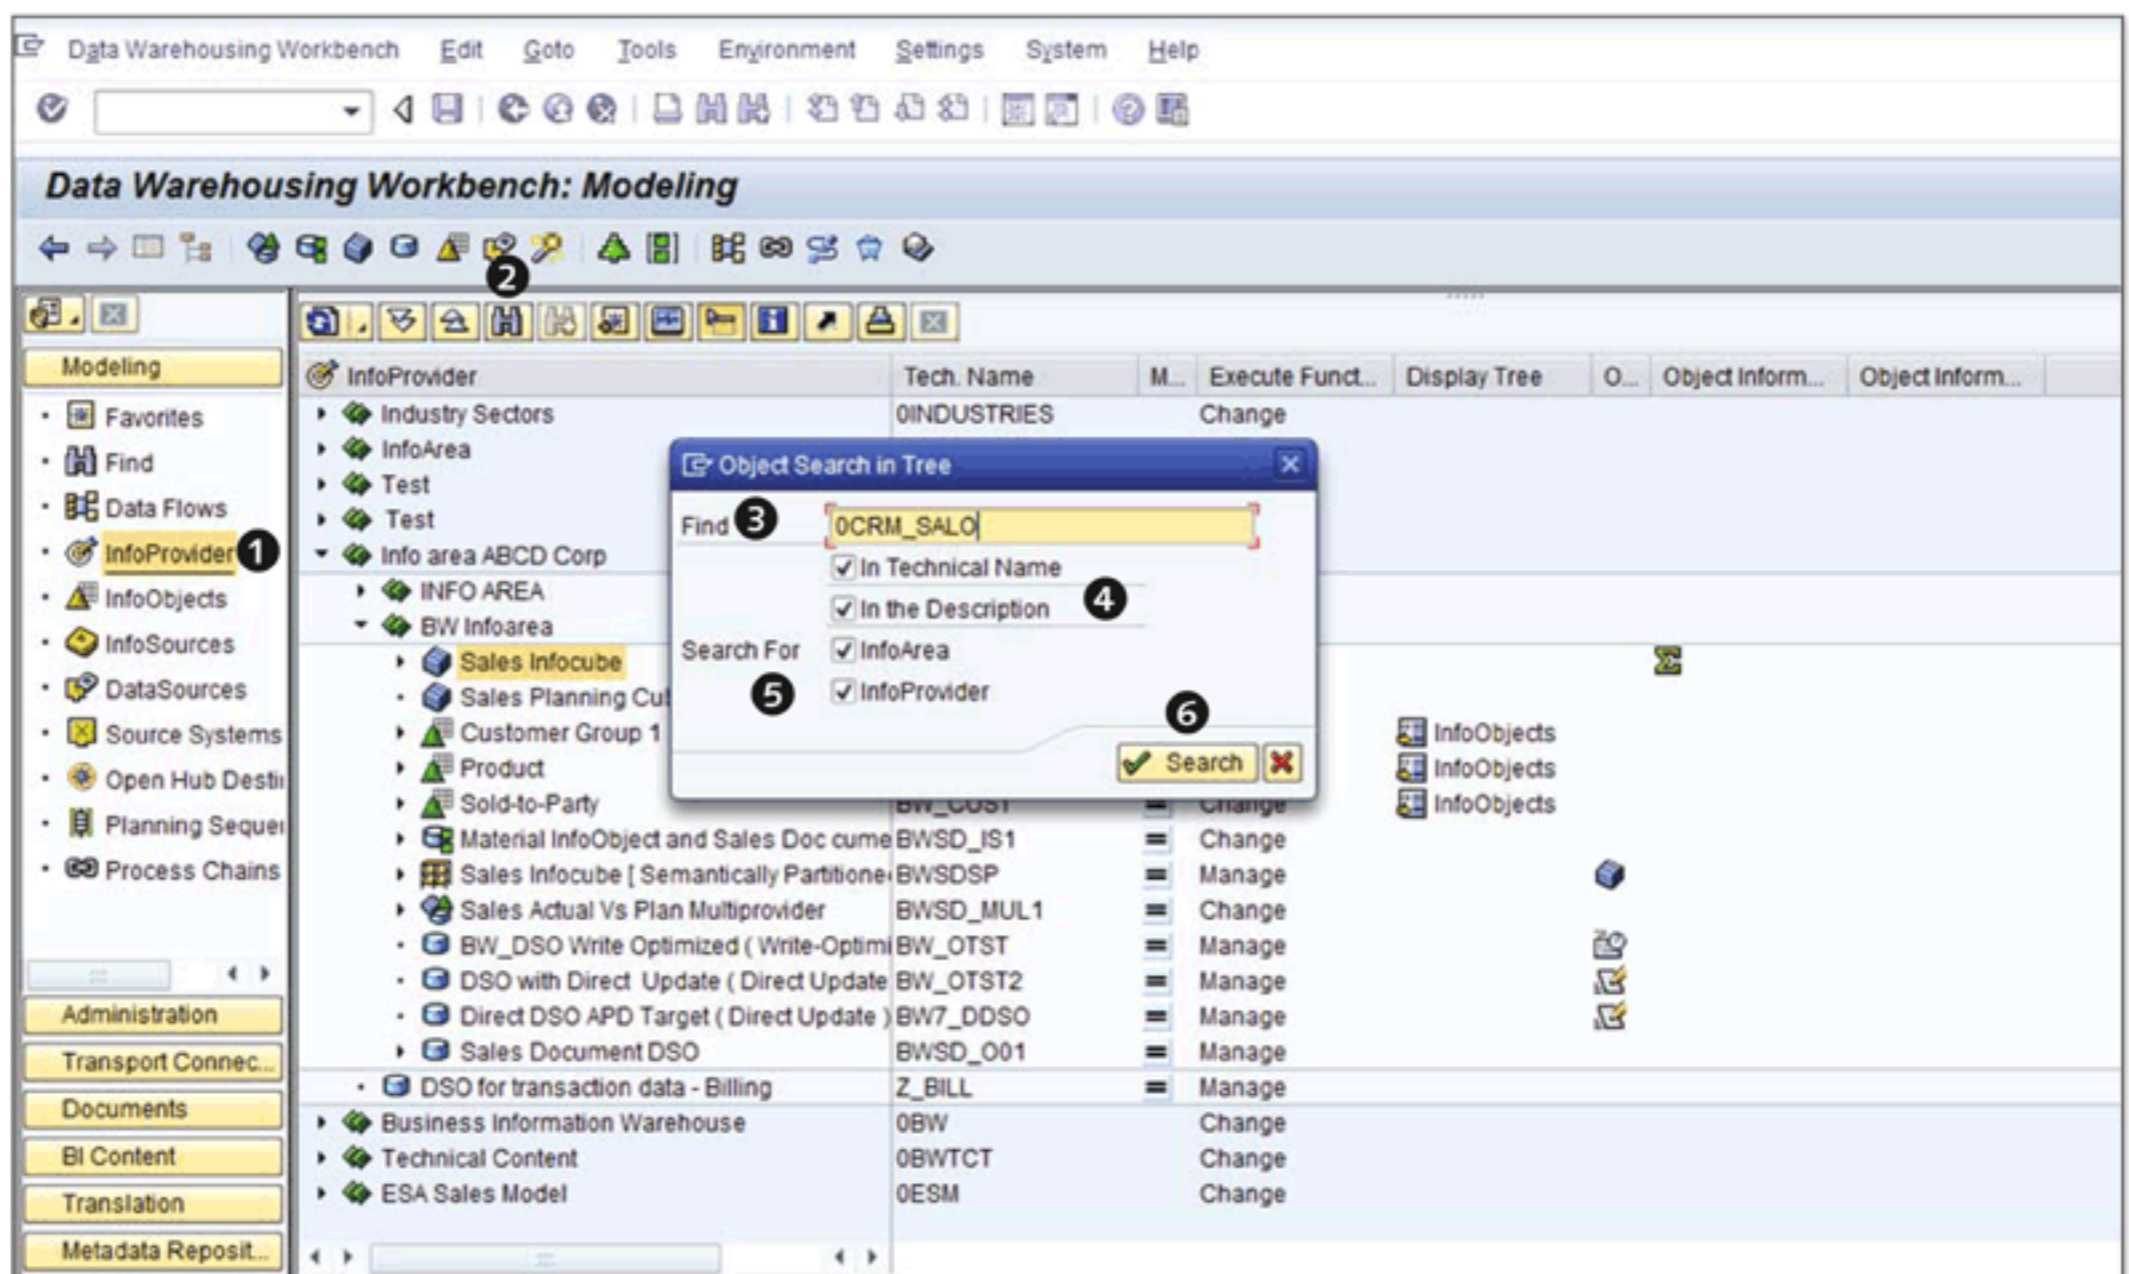
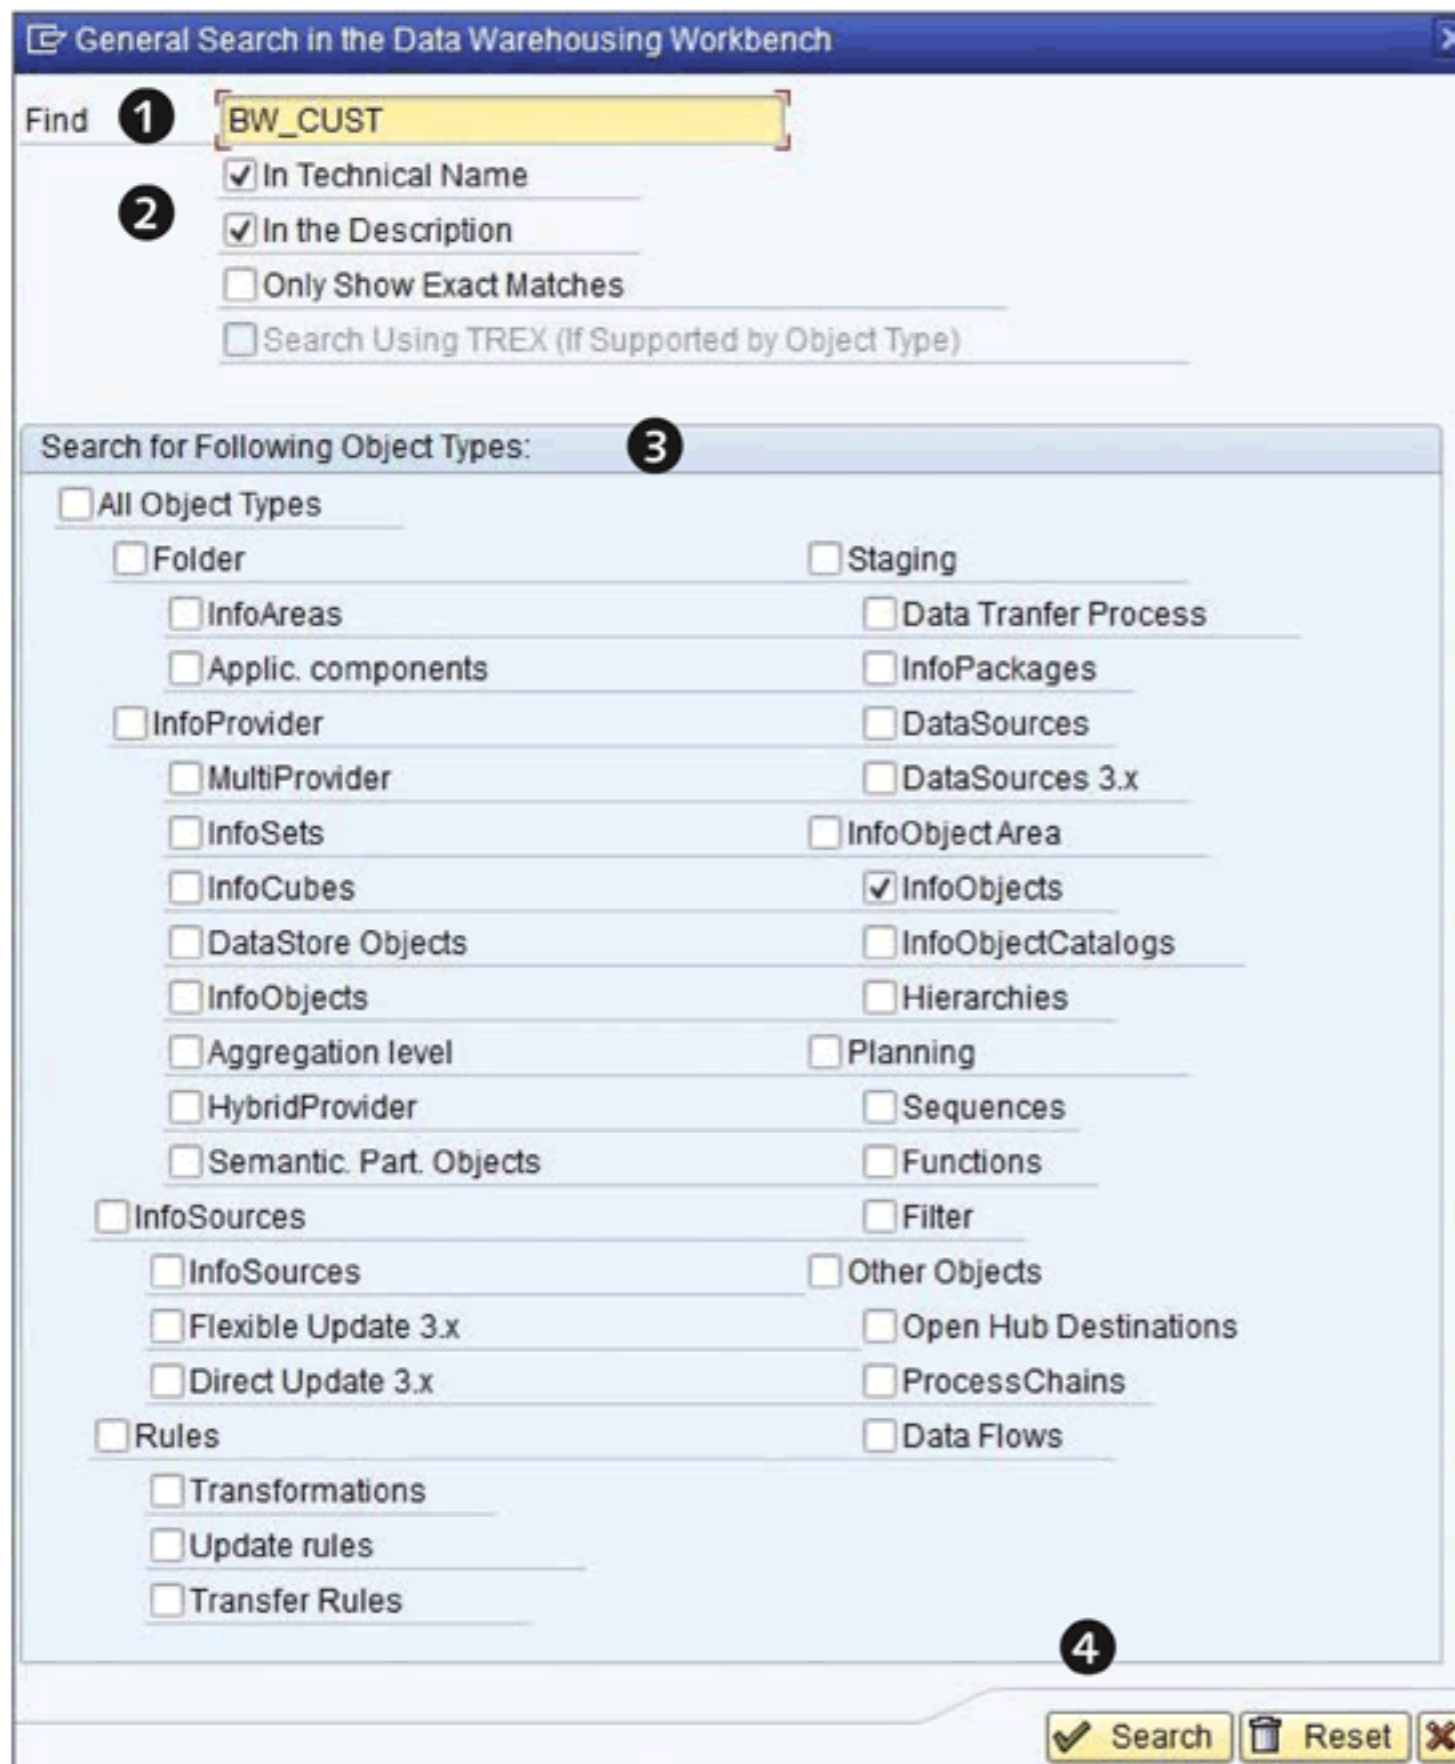
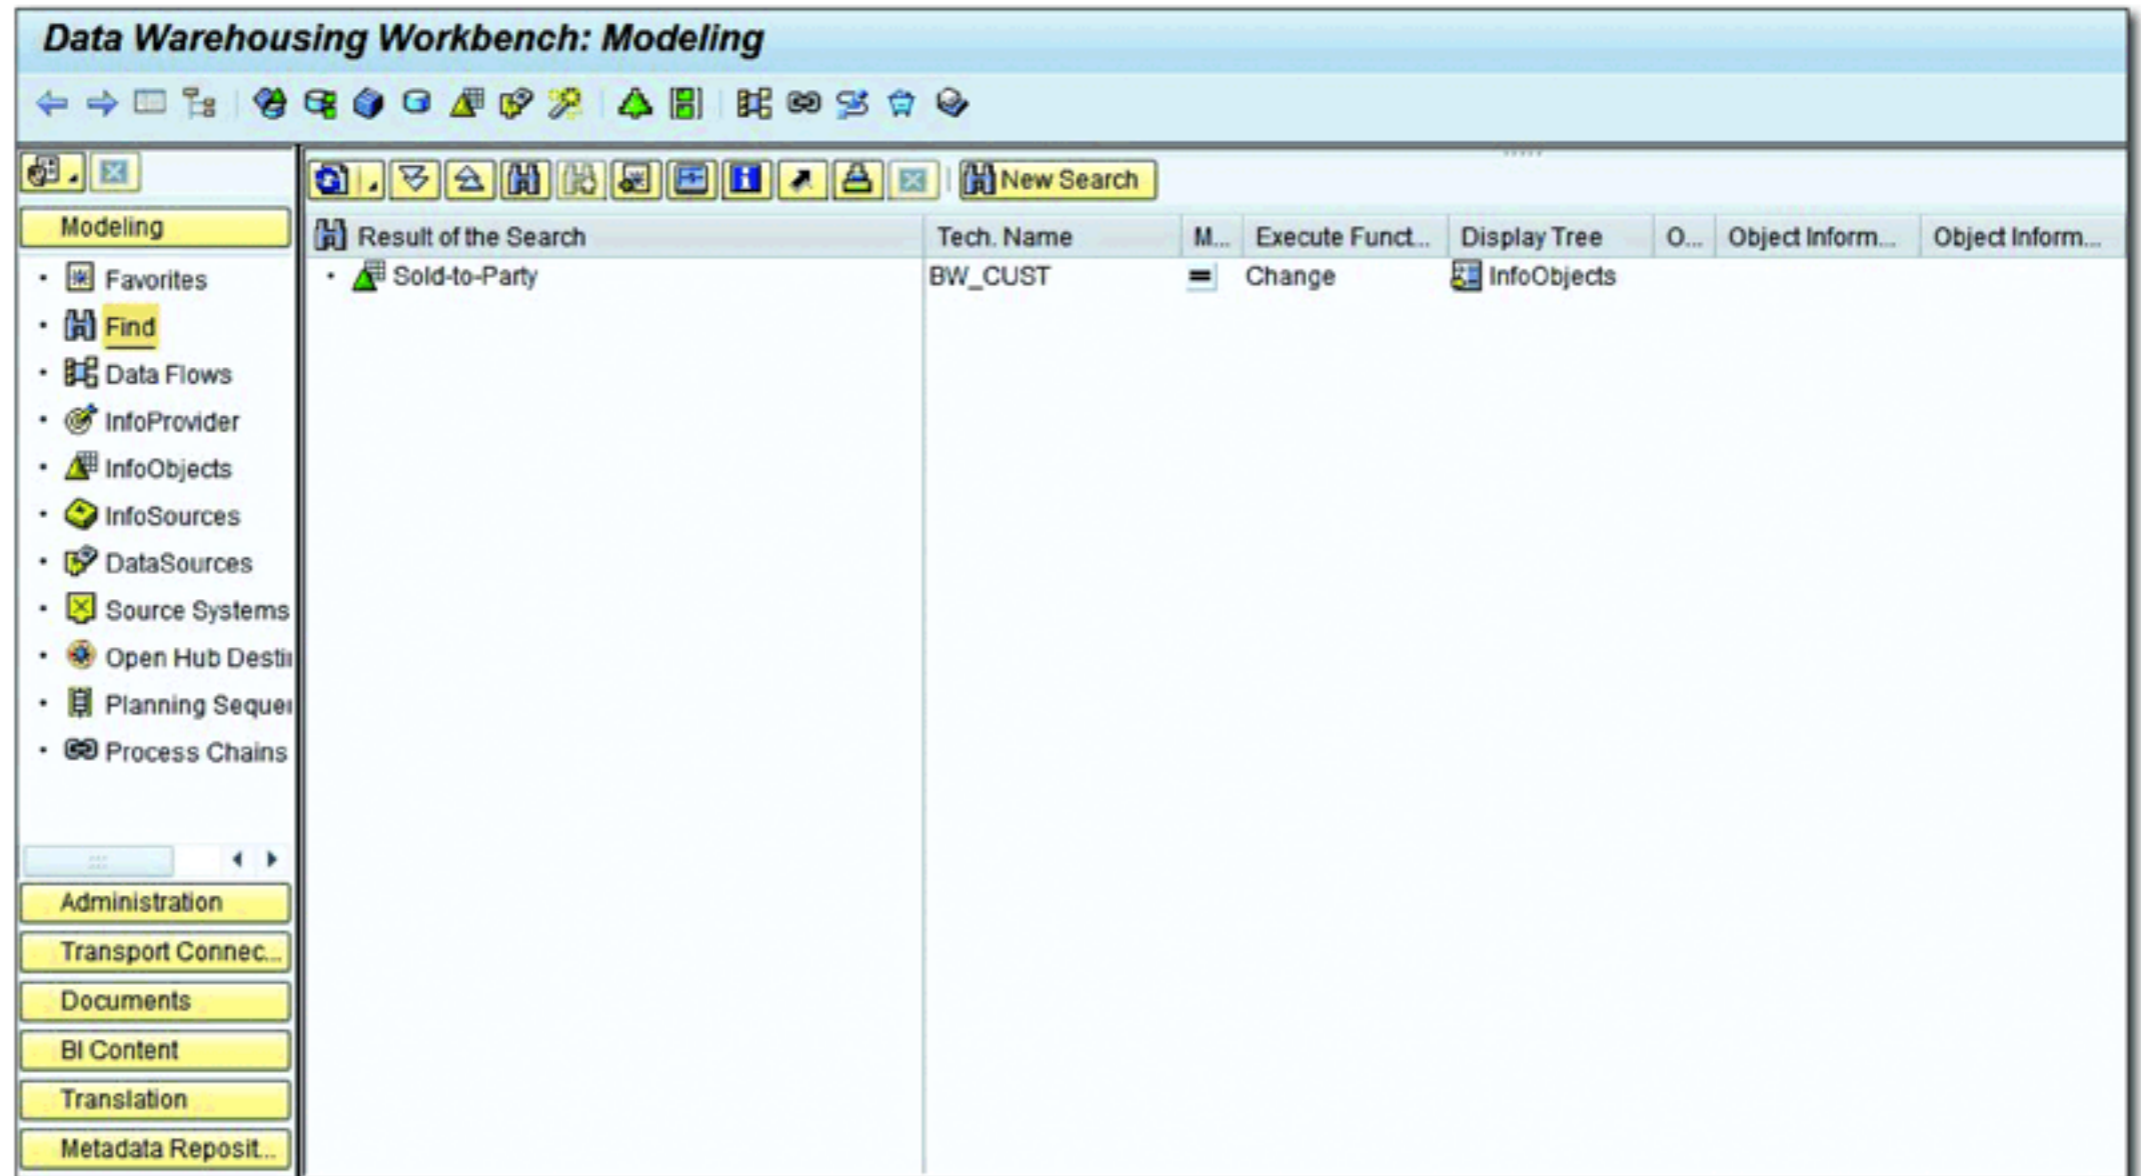

Figure 2.16 Searching Objects in the DWW
Figure 2.17 General Search in the DWW
Figure 2.18 Search Results
1. Click on the type of object you want to search, as shown in **1** of Figure 2.16. In the example here, we are searching for InfoCube OCRM_SALO, so we've selected INFOPROVIDER under MODELING.
2. Click on the SEARCH icon, as shown in **2** of Figure 2.16. SAP NetWeaver BW displays the OBJECT SEARCH IN TREE box, as shown in Figure 2.16.
1. Click on FIND under the MODELING section of the navigator (Figure 2.16). SAP NetWeaver BW displays a GENERAL SEARCH IN THE DATA WAREHOUSING WORKBENCH pop-up box, as shown in Figure 2.17.
2. Type the technical name or description of the object you're trying to search, as shown in **1** of Figure 2.17.
4. If you don't know what kind of object you're searching for, select ALL OBJECT TYPES. If you do know the object type, tick the appropriate checkbox (3).
5. Click on the SEARCH icon (4). SAP NetWeaver BW shows the result of this search, as shown in Figure 2.18.